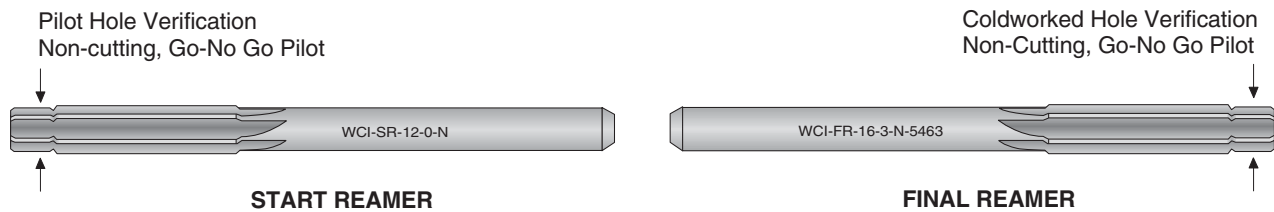

Figure 3-06 — Start and Final Reamers
3.11 **Start Reamer** — The start reamer is used to properly size the pilot hole prior to the coldworking operation. Ref. Fig. 3-06.
3.12 **Final Reamer** — The final reamer is used to properly size the post coldworked hole. The non-cutting pilot of a final reamer is the same diameter as the verification gage. If the hole has not been properly coldworked, the reamer pilot will not enter the post coldworked hole. Ref. Fig. 3-06.